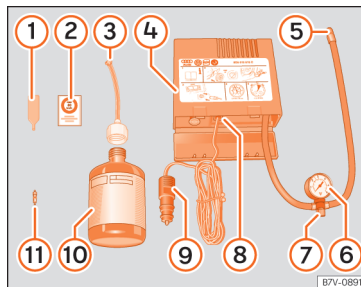

Fig. 49 Standard display: contents of the anti-puncture kit.
- Unscrew the tyre valve cap and insert. Use the »»» **Fig. 49** **1** tool to remove the insert. Place it on a clean surface.
- Shake the tyre sealant bottle vigorously »»» **Fig. 49** **10**.
- Screw the inflator tube »» Fig. 49 ③ into the sealant bottle. The bottle's seal will break automatically.
- Remove the lid from the filling tube »» Fig. 49 ③ and screw the open end of the tube into the tyre valve.
- Place the insert back into the tyre valve using the tool »» Fig. 49 ①.
- Screw the compressor tyre inflator tube »» Fig. 49 ⑤ into the tyre valve.
- Check that the air bleed screw is closed »» Fig. 49 ⑦.
- Insert the connector »» Fig. 49 ⑨ into the vehicle's 12-volt socket »» page 120.
- Turn the air compressor on with the ON/OFF switch »» Fig. 49 ⑧.
- Attach the sticker »» Fig. 49 ② to the instrument cluster, within the driver's visual field.